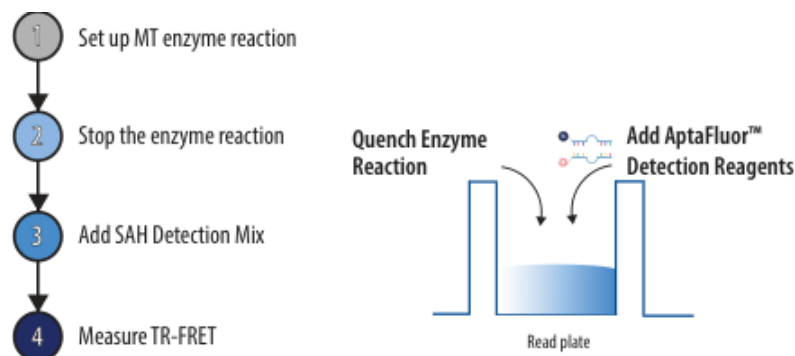

Figure 2. An outline of the procedure. The assay consists of 4 main steps with a mix-and-read format.
- 4 The AptaFluor™ SAH Methyltransferase TR-FRET Assay protocol consists of 4 steps (**Figure 2**). The protocol was developed for a 384-well format, using a 10 µL enzyme reaction and 20 µL final volume at the time that the plates are read. Increase the volumes to 25 µL enzyme and 50 µL final volume if using 96-well half-volume plates. The use of different plate densities or reaction volumes will require changes in reagent quantities.